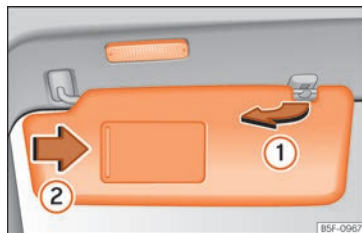

Fig. 126 Sun visor
- The sun visor can be pulled out of its mounting and turned towards the door »» Fig. 126 ①.